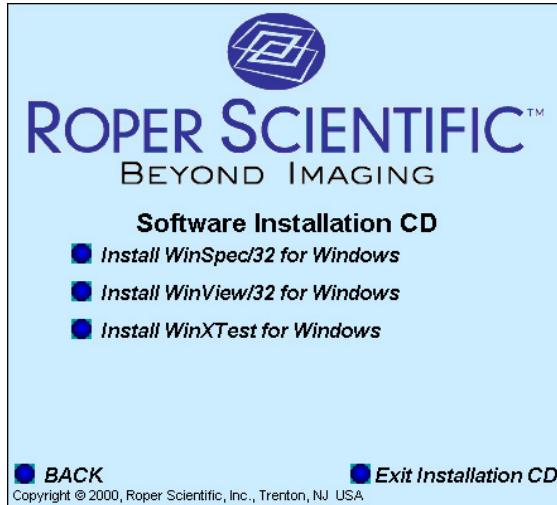

Figure 192. WinSpec, WinView, or WinXTest Selection dialog box
1. Start the installation program and on the **WinSpec, WinView, WinXTest Selection** dialog box (Figure 192), select **Install WinSpec/32 for Windows**.